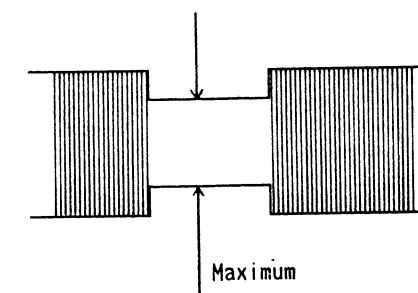

Fig. 2-9
3. Adjust the X value adjustment nut (D) for maximum ENVE signal for CH1 by using F6-N test tape (Refer to Fig.2-9)